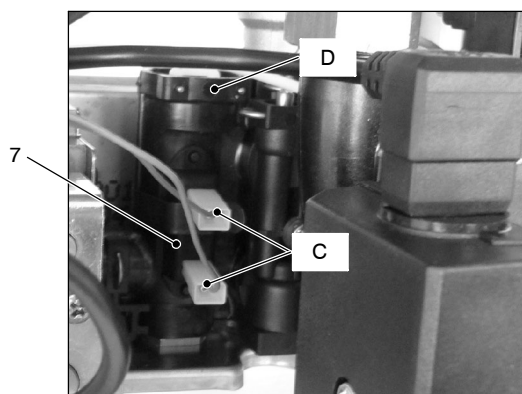

Fig. 67
- 2 Disconnect the connectors *C* and remove the sensor holder spring 7 (Fig. 67).